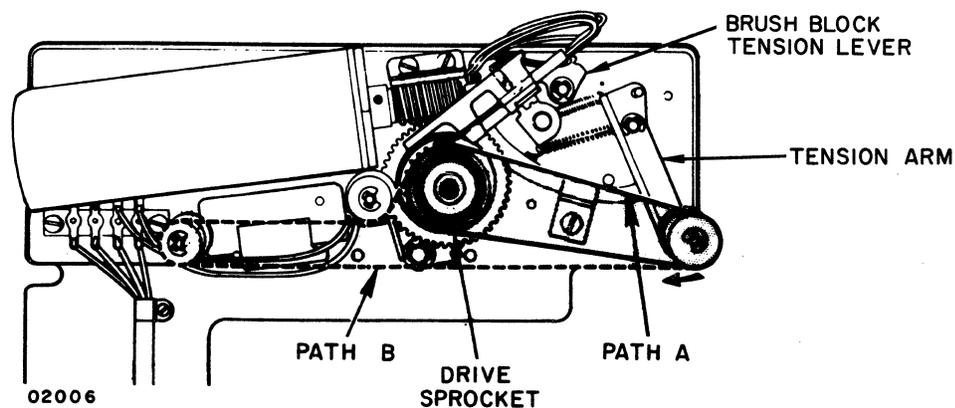

Figure 2-13. Format Tape Installation
- 4) Route the format tape, using path A or path B as shown in figure 2-13, depending on the tape length. Path A should be used for the short tapes. If the tension arm cannot take up all the slack or if the tension arm contacts the cabinet, path B should be used.